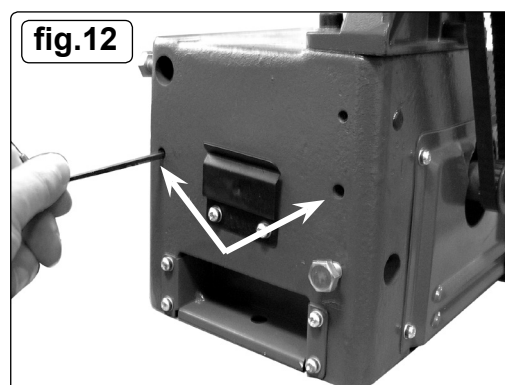
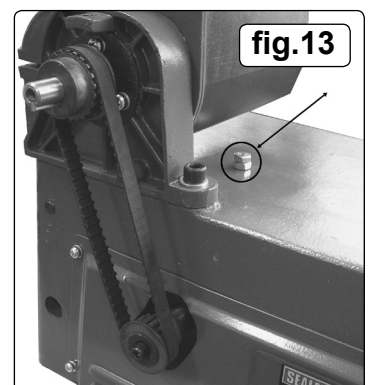

fig.12
fig.13
**IMPORTANT:** Before using the sander, the belt tensioner adjusters (as shown in figs.12 and 13), need to be turned back approximately 1 turn from their transport position, to allow the electric motor a small amount of movement. If this is not carried out there is a danger that the motor will jam.
- 6.7.8. The belt tensioners are shown in fig.12 - two horizontal adjusters and fig.13 - vertical adjuster.
- 6.7.9. When squeezing the belt; if the motor pulley rises, adjust the vertical adjuster (fig.13) until there is no more vertical play in the motor. Note: When you are satisfied the belt tension is correct, turn the belt through a couple of revolutions to ensure belt, pulleys etc. all turn freely.